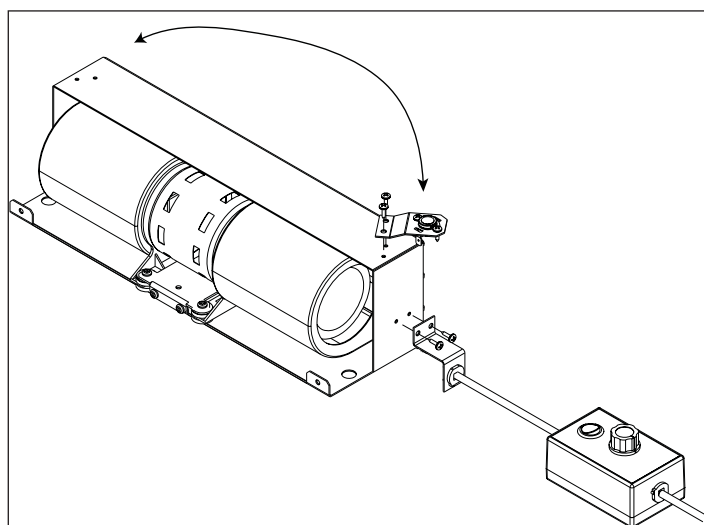

Figure 21.2
3. Using phillips head screw driver, remove snap disc bracket and cord restraint bracket from right side. **Figure 21.2**
4. Re-install snap disc bracket and cord restraint bracket to left side of blower housing. **Figure 21.2.**